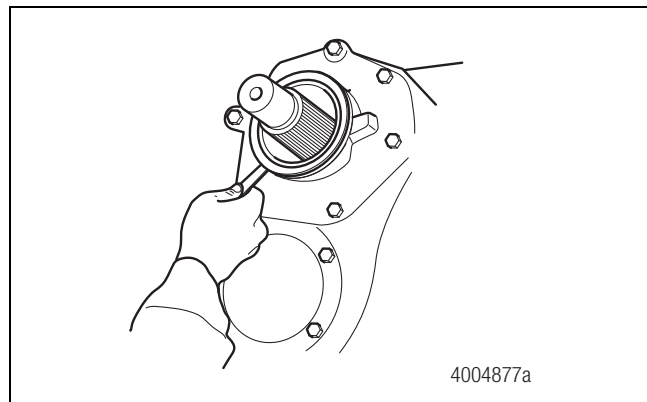

Figure 9
8. Use a feeler gauge to check the seal gap. The seal is correctly installed if the gap is less than 0.005-inch (0.127 mm) around the circumference of the seal flange. Figure 9.